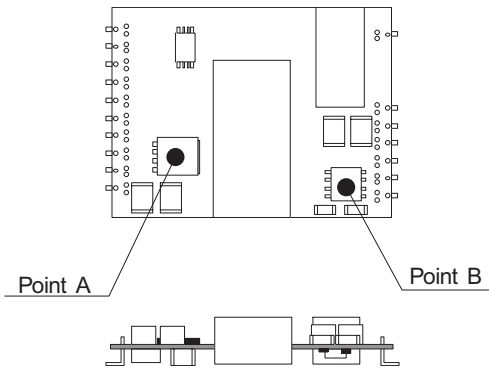

Fig.8.20 Location of point A and B
(3) Measuring point in forced air cooling
■ In case of forced air, ventilation must keep the temperature of point A and B below 120°C. Refer to Fig.8.20 for the location of point A and B.